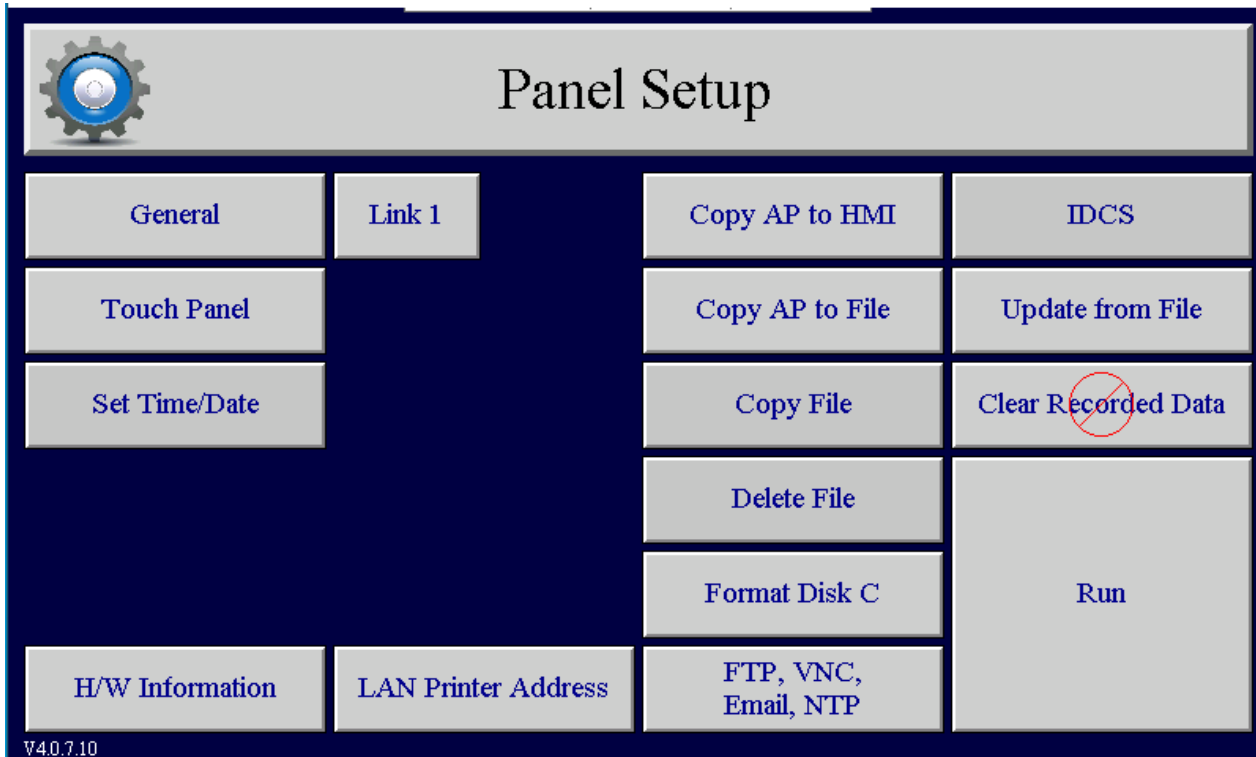

Figure 25: Panel Set up screen.
2. Panel Setup Menu see **Figure 25**